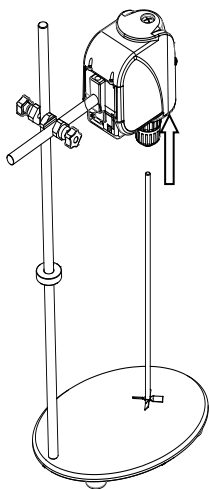

Figure 7
7. Insert the stir propeller in the propeller clip, rotate the clip clockwise until the propeller is tightly attached to the main instrument (refer to figure 7).